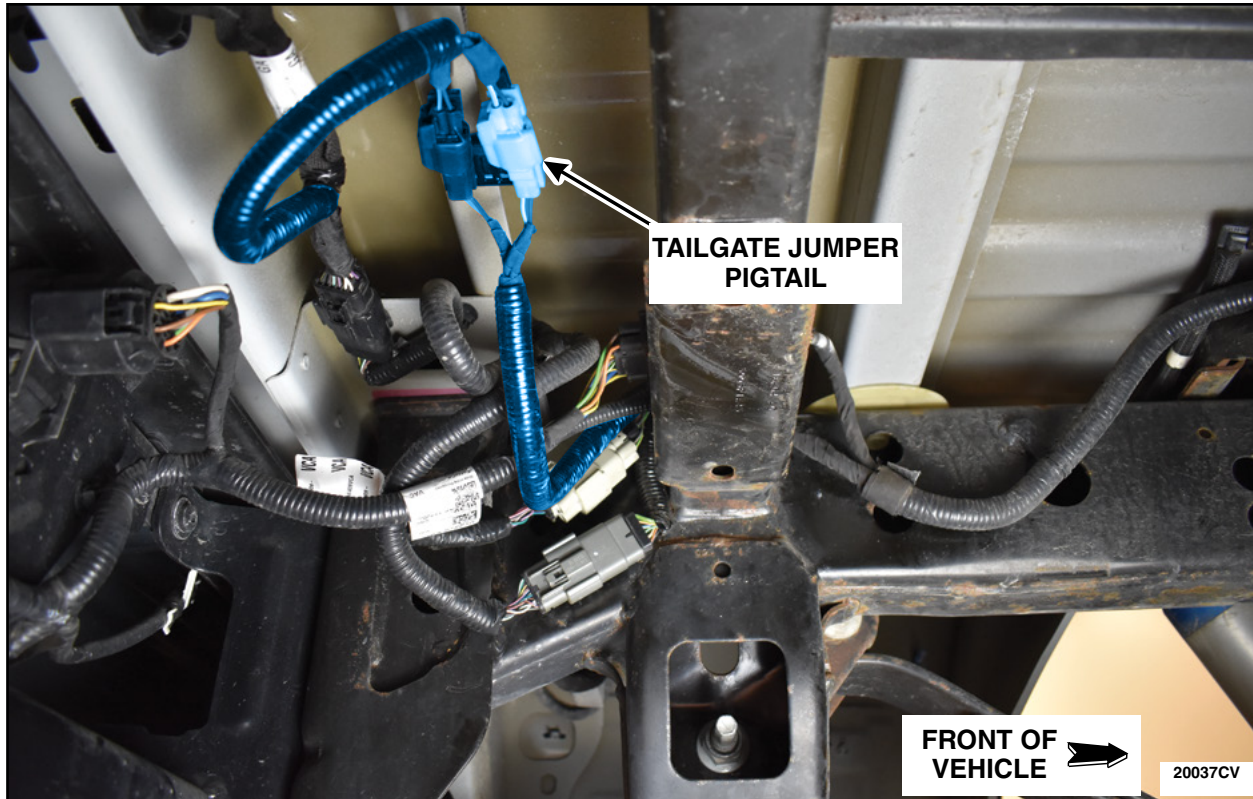

FIGURE 53
75. Inspect underneath the rear of the vehicle, on the bed support, and determine if a Tailgate Jumper Pigtail is present. See Figure 53.